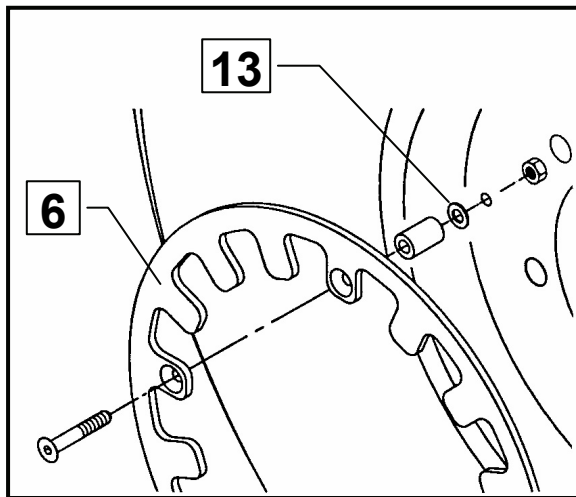

Fig. 8
- Assemble the sensor in the clamp holder and rectify any possible inclination of the counting ring with the shims (13) (fig. 8).